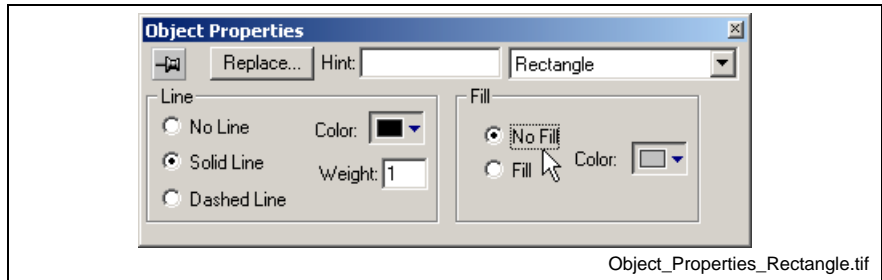

Fig.5-23: Dialog **Object Properties** – Rectangle
2. Open dialog **Object Properties** with a double-click on the rectangle and activate property **No Fill**. See "Fig.5-23: Dialog Object Properties – Rectangle".